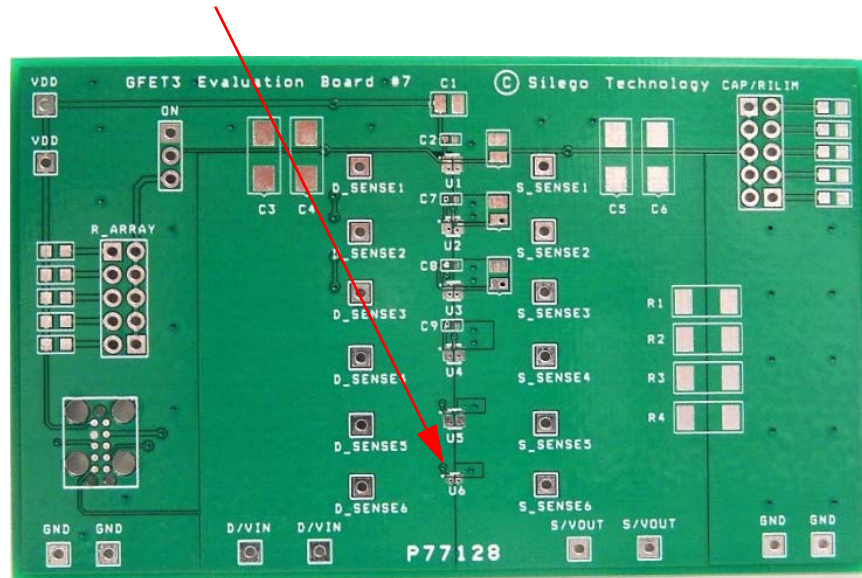

Figure 1. SLG59M1558V Evaluation Board
1. Since the VIN and VOUT pins dissipate most of the heat generated during high-load current operation, it is highly recommended to make power traces as short, direct, and wide as possible. A good practice is to make power traces with an absolute minimum widths of 15 mils (0.381 mm) per Ampere. A representative layout, shown in Figure 1 illustrates proper techniques for heat to transfer as efficiently as possible out of the device;
A GreenFET Evaluation Board for SLG59M1558V is designed according to the statements above and is illustrated on Figure 1. Please note that evaluation board has D_Sense and S_Sense pads. They cannot carry high currents and dedicated only for RDS_{ON} evaluation.